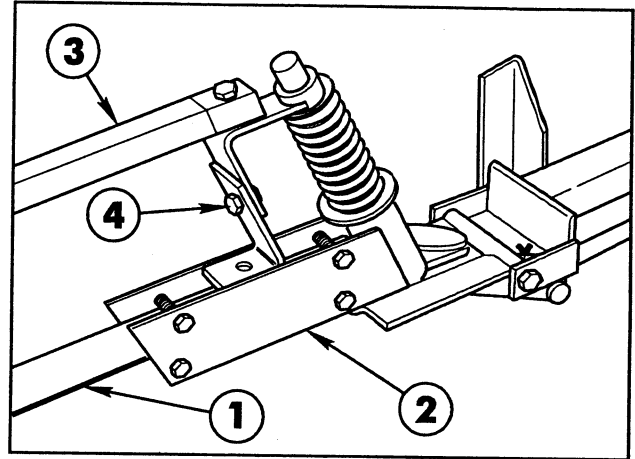

FIG. 13
4. Insert the plugged end of an extension boom pipe into the pivot assembly and secure with (4) 1/4" x 1 1/4" hex hd cap screws and lock nuts. Repeat on the opposite side to assemble the other extension boom (FIG. 13).
5. Attach the boom support assembly to the pivot assembly, using a 5/16" x 1 1/2" screw and locknut. See FIG. 13 & 14.